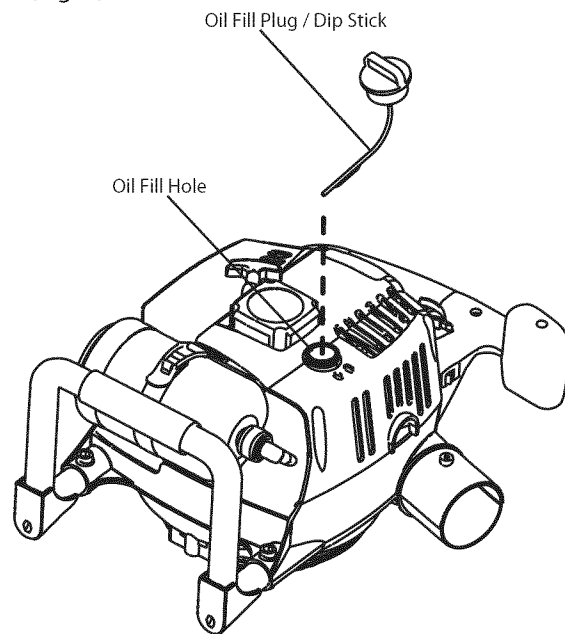

Fig. 3
3. Remove the oil plug / dipstick from the crankcase by turning it counterclockwise (Fig. 3).
4. Pour the entire bottle of oil into the oil fill hole (Fig. 3).